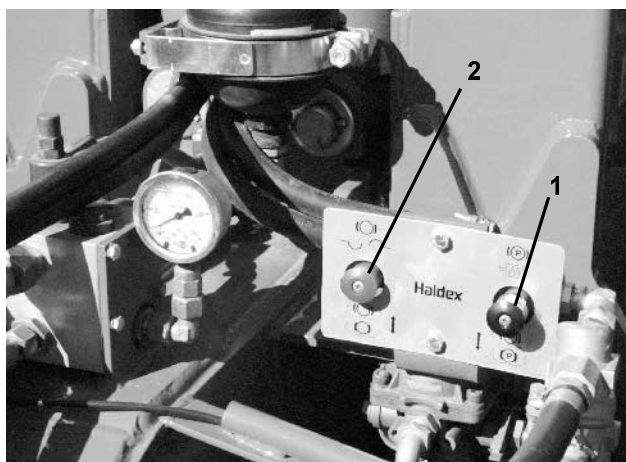

Fig. 14
- Release parking brake (black button) (Fig. 14/1).
- The red button (Fig. 14/2) serves for releasing the brake when the brake hoses are not applied (manoeuvring).